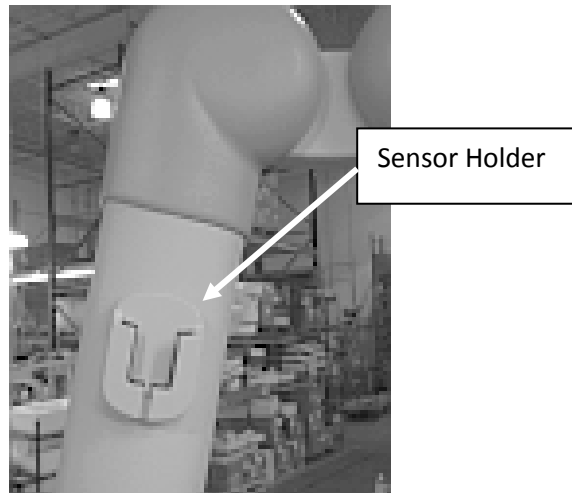

Figure 44: Attaching the Sensor Holder to the Articulating Arm
1. Attach the sensor holder to the Articulating Arm by peeling off the tab and exposing the sticky tape as shown on Figure 44.